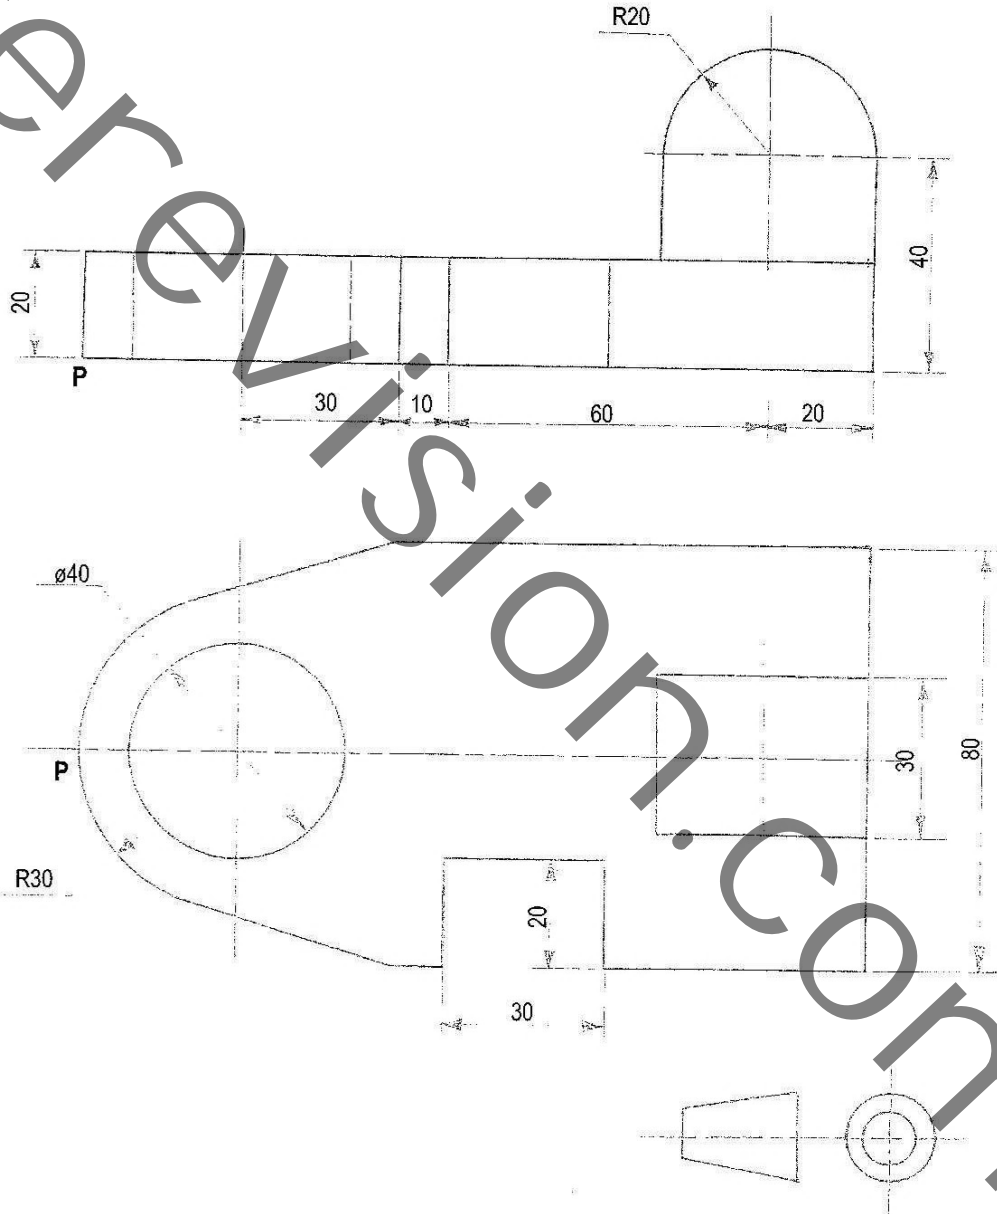

Figure 1
- 1** Figure 1 shows two orthographic views of a **BRACKET** sketch (in freehand) a pictorial view of the bracket with point 'P' in the foreground of the view.